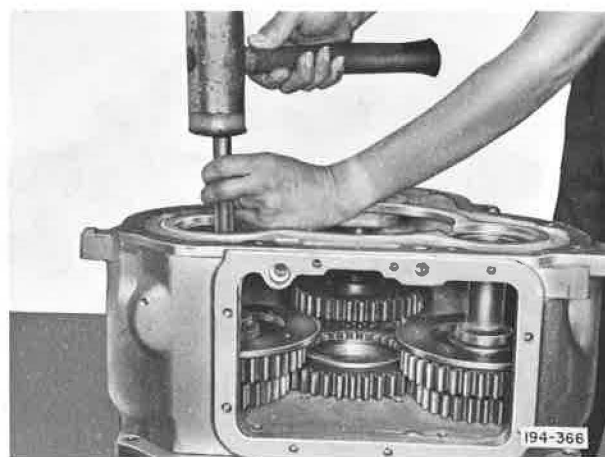

Figure 5-166. Driving Compound Counter-shaft Forward
12. (TRDXL1070) After gears have been timed correctly, use a suitable soft iron drift and hammer to drive each compound counter-shaft assembly forward until gear bottoms against case. See Figure 5-166.